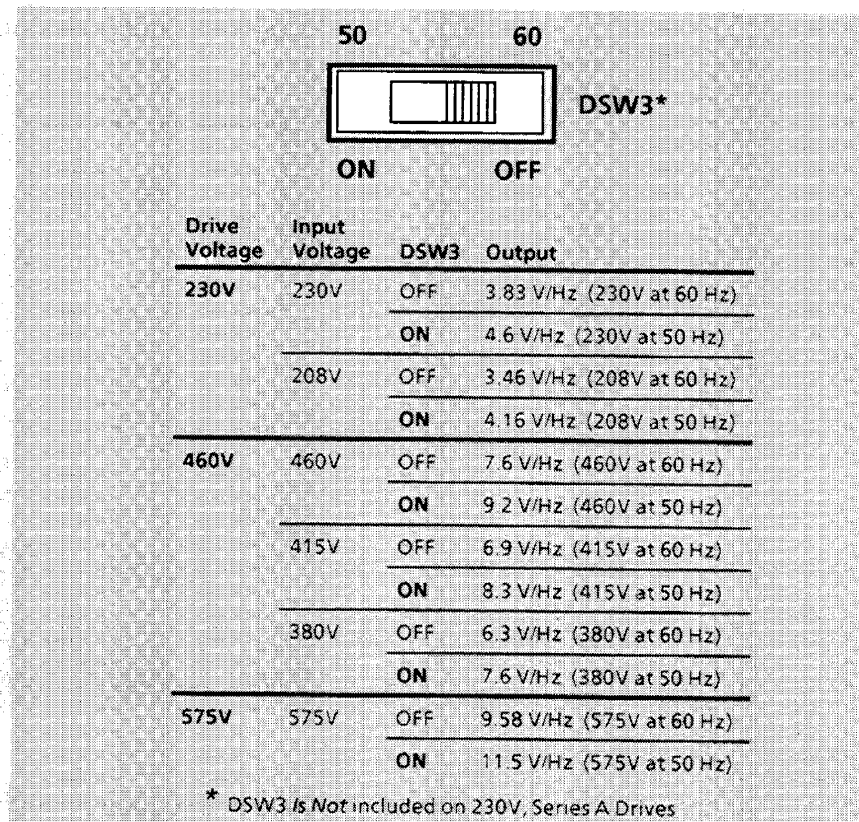

Figure 6-2. Maximum Voltage Output Setting
**VR8** This pot shall be initially set at 50% which will produce values as listed in Figure 6-2.